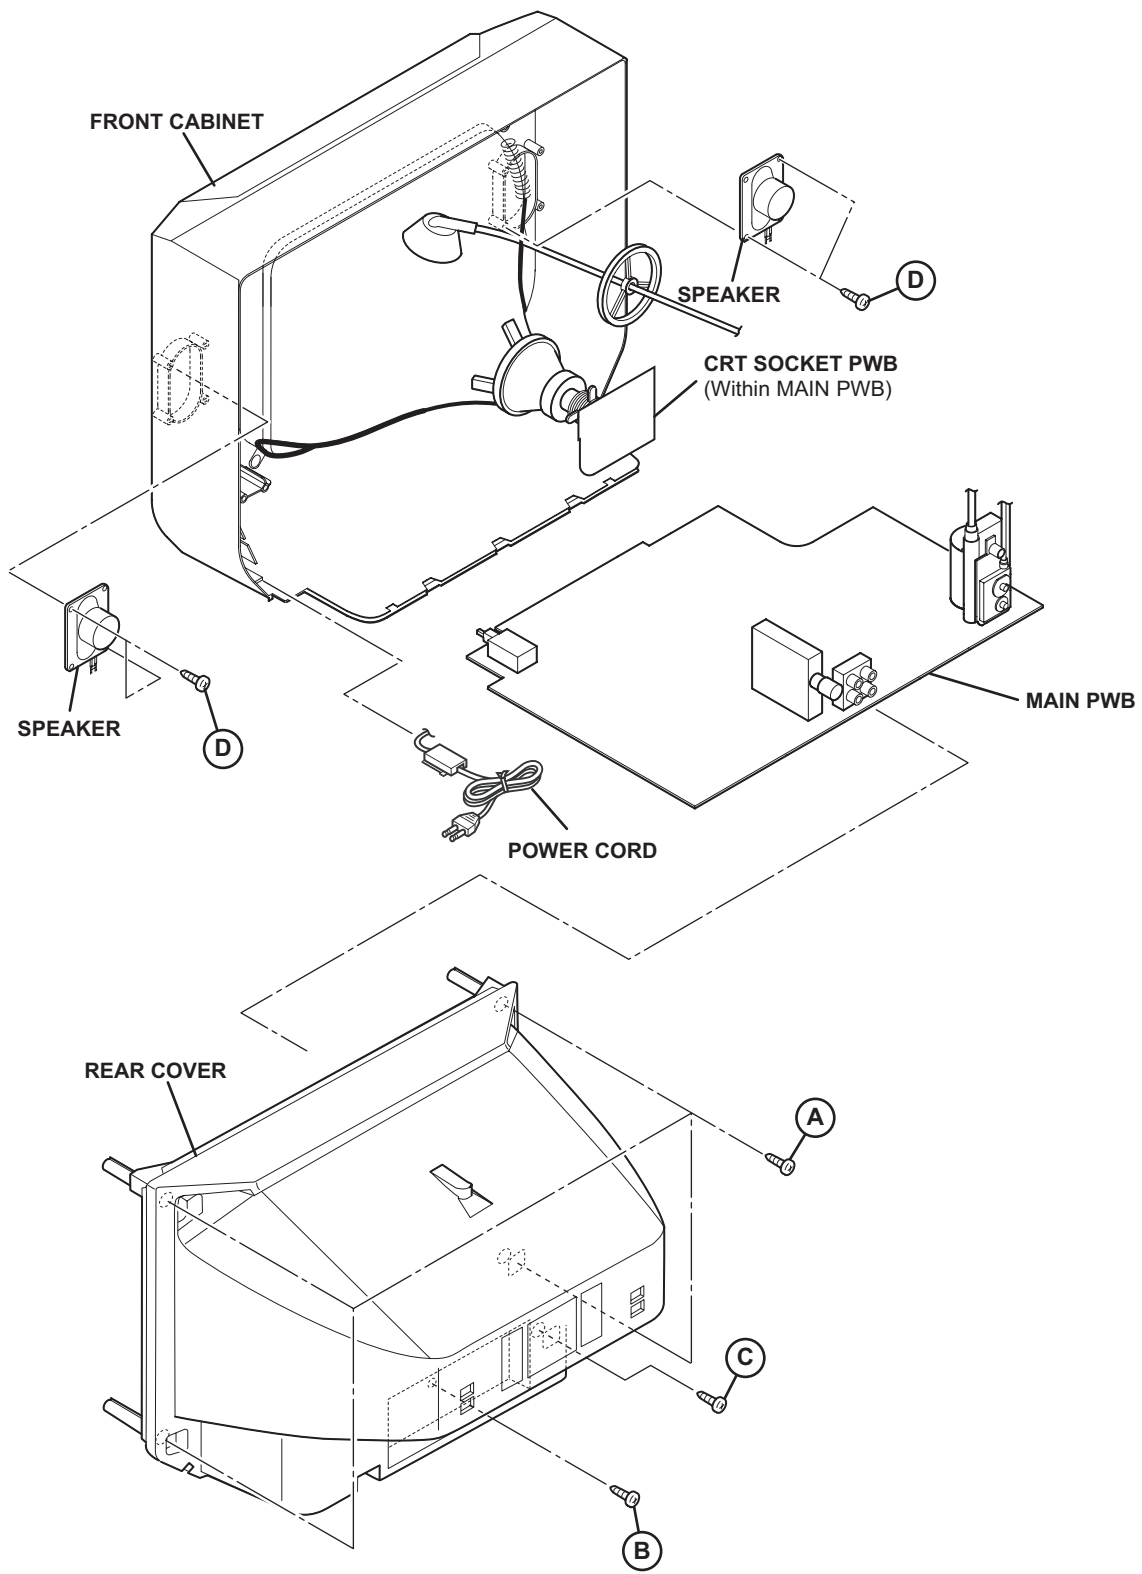

Fig.2
- (1) Remove the 2 screws **[D]** as shown in Fig.2.
- (2) Follow the same steps when removing the other hand SPEAKER.